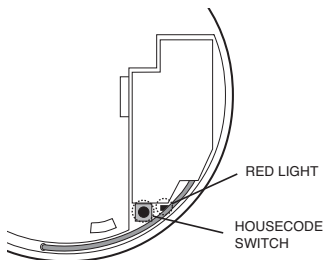

Figure 2a
4. Before fitting the Alarm to the mounting plate, press and hold the 'House Code' switch on the rear of the RadioLINK module until the red light comes on (see Figures 2a) and then release.